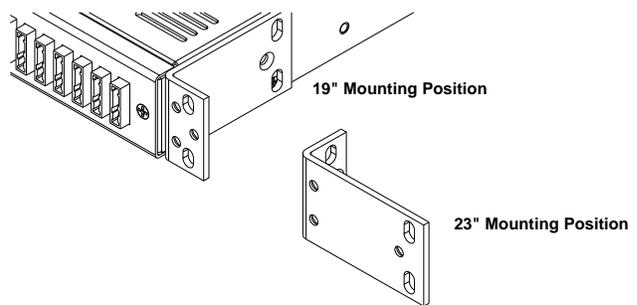

Figure 4.2.1
4.2. Once the panel is unpacked, verify that there are three mounting brackets. The bracket with the vertical slot is used on both 1” and 1-3/4” spacing. There will be two brackets with horizontal slots, these will fit 1” or 1-3/4” spacing. All three brackets are universal for 19” and 23” rack mount spacing (see figure 4.2.1) and can be mounted so the panel can be installed for a flush mounting or 5” offset. Adjust the position and orientation of the correct mounting brackets on the fuse panel, such that it will fit the rack you wish to mount the panel in. Please see drawing 1012-16 on page 6 for mounting bracket configurations.